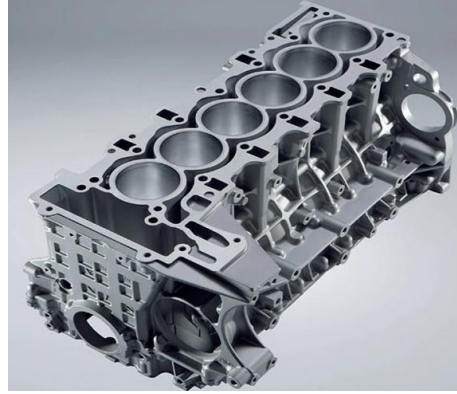

Figure 1: Illustrate In-line Engine.
1. **Inline Engine:** An inline engine has cylinders that are set up in a straight line. Although it can be utilised with six- and eight-cylinder engines as well, the four-cylinder engine is the most popular kind to employ this configuration. Because they are lightweight and compact, inline engines are perfect for usage in smaller cars. The engine in the following Figure 1 is an inline engine.